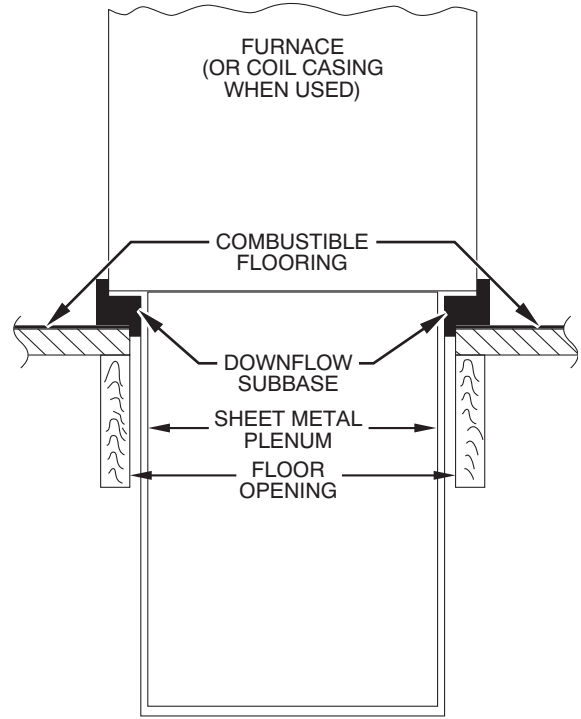
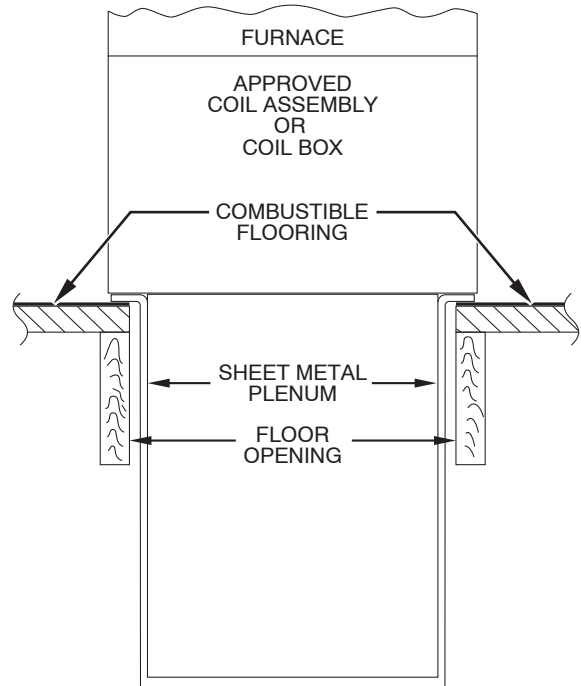

Fig. 12 - Furnace, Plenum, and Subbase installed on a Combustible Floor
Fig. 13 - Furnace, Plenum, and Coil Assembly or Coil Box Installed on a Combustible Floor
4. If downflow subbase, KGASB is used, install as shown in Fig. 12. If Coil Assembly Part No. CNPV, CNRV, CAP, CAR or Coil Box Part No. KCAKC is used, install as shown in Fig. 13.